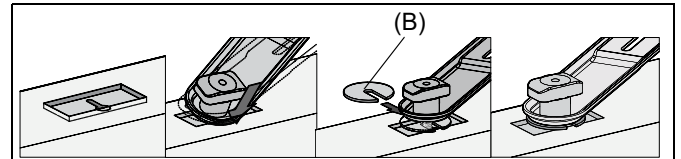

Figure 4
IMPORTANT ! : If needed, use fender washers (B) under soundbar bracket (A) to rest flat onto the soundbar surface. (See Figure 4)